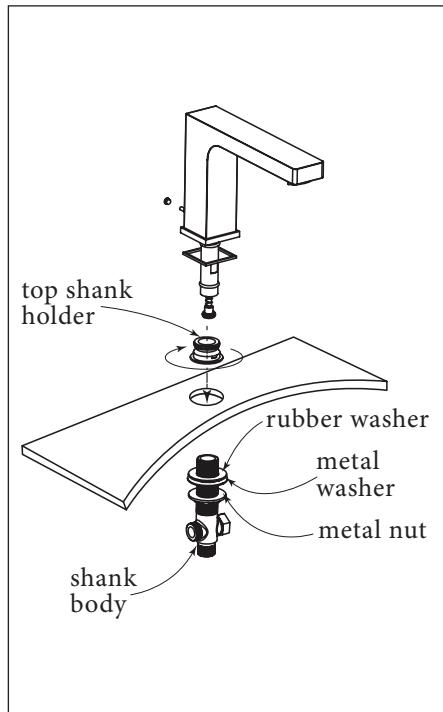

Fig.2
D. From under the deck, insert the shank body through the hole and tighten back firmly the top shank holder from the top, (Fig.2).